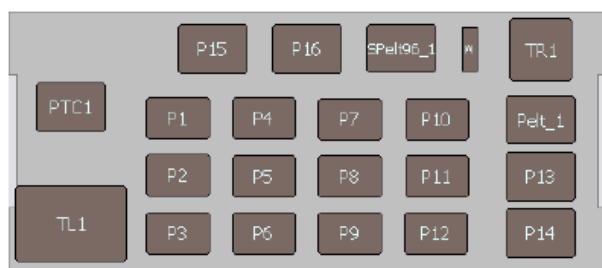

Figure 39 Empty deck positions.
- Figure 39— Location names of empty deck positions
^[1] See Figure 39 for empty deck positions.